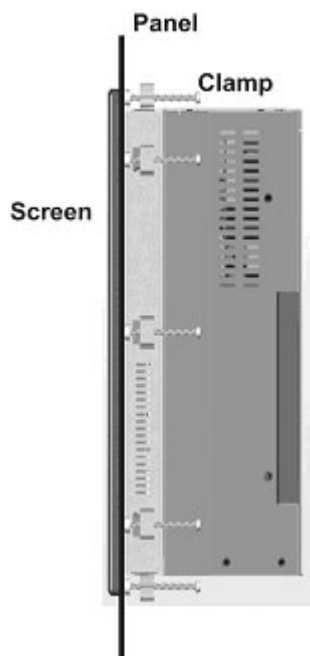

Figure 5-15: Panel Mounting Clamp Position
Step 5: Tighten the screws that pass through the panel mounting clamps until the plastic caps at the front of all the screws are firmly secured to the panel (**Figure 5-15**).